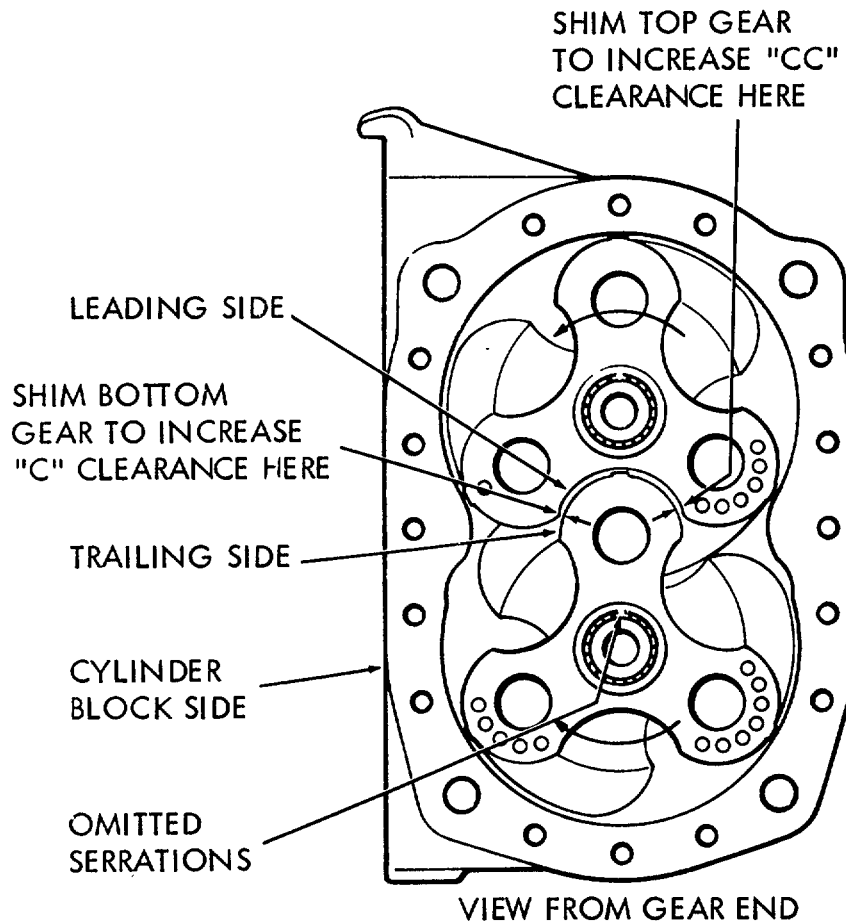

Figure 3-32. Proper shim location for correct rotor lobe clearance
(7) Assemble the blower rotors in the blower housing and front end plate as follows. The rotor must be assembled in the blower housing with the omitted serrations in the rotor shafts alined as shown in figure 3-32.
(a) Place an oil seal pilot J 6270-5 on the short (non-splined) end of each rotor shaft. Then, place the rotors in mesh with the omitted serration in the shafts in alignment as shown in figure 3-32.
When rebuilding a blower with new rotors or new gears, first install the gears on the rotor shafts without the shims, then check the clearances between the rotors to determine the location and thickness of shims to be used; refer to figure 3-32.
(b) After determining the amount one rotor must be revolved to obtain the proper clearance, add shims back of the proper gear as shown in figure 3-32 to produce the desired result. When more or less shims are required, both gears must be removed from the rotors. Placing a .003 inch shim in back of a rotor gear will revolve the rotor .001 inch.